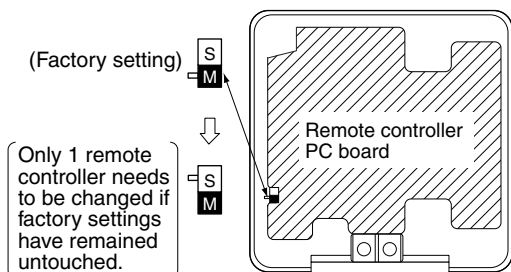

Fig. 31
- Turn the MAIN/SUB changeover switch on one of the 2 remote controllers PC boards to "S". (Leave the switch of the other remote controllers set to "M".) **(Refer to Fig. 31)**